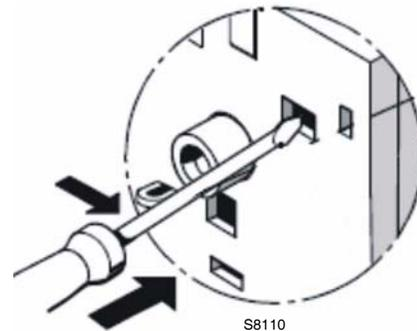

Fig. 31
- **Contact test NC (95-96) and NO (97-98)(Fig. 31)**